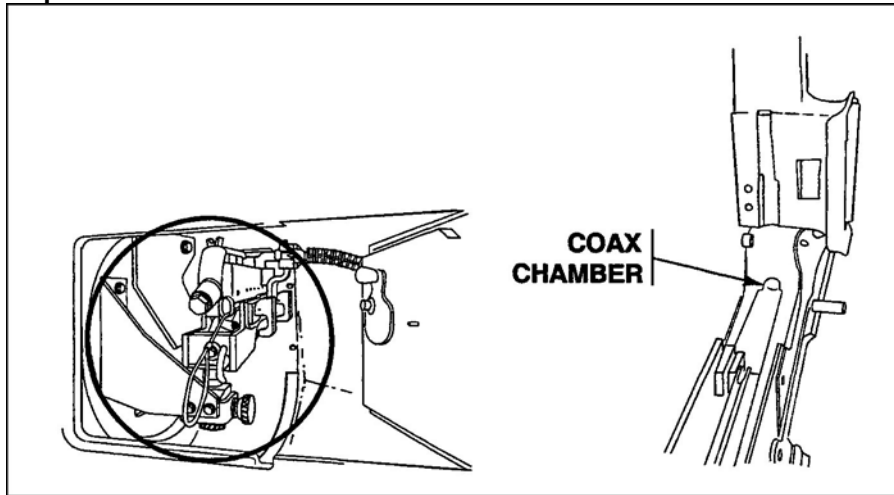

Figure 7. Chamber.
- (2) Push the ammunition or empty links to the right, clearing the feed tray.
- g. Clear chamber of the M240C coaxial machine gun (Figure 7).